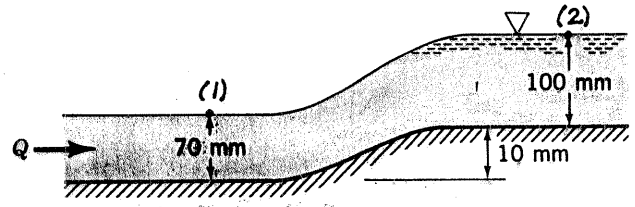

FIGURE P3.94
3.94 Water flows in a rectangular channel that is 2.0 m wide as shown in Fig. P3.94. The upstream depth is 70 mm. The water surface rises 40 mm as it passes over a portion where the channel bottom rises 10 mm. If viscous effects are negligible, what is the flowrate?